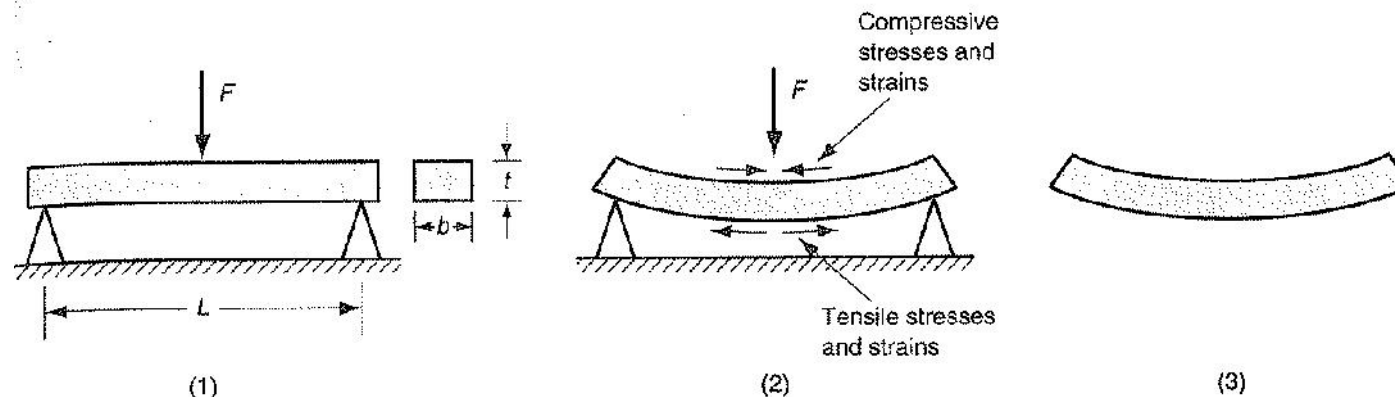

Fig. 3-11: Bending test setup and specimen: (1) initial loading, (2) highly stressed and strained specimen, and (3) bent part.
- Bending operations: used to form metal plates and sheets (Fig. 3-11; showing the setup of the bending test). Bending results in two stress (and strain) components; tensile in the outer half of the bent section and compressive in the inner half.
where *TRS* is in MPa, *F*: the applied load at fracture in N, *L*: the length between supports and *b* and *t* are dimensions of the cross-section in mm (Fig. 3-11)